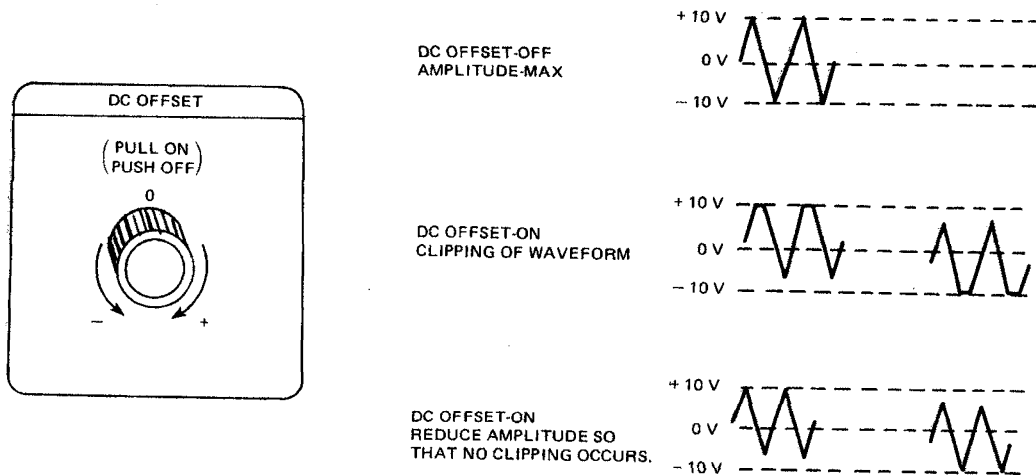

Figure 5-8 Clipping in DC Offset Operation
1. High-amplitude output signals used in conjunction with dc offset can result in clipping at the plus and minus 10 volt levels. ( $\pm 5$  V when the output is terminated.) Refer to Fig. 5-8. Reduce AMPLITUDE as needed to prevent clipping.